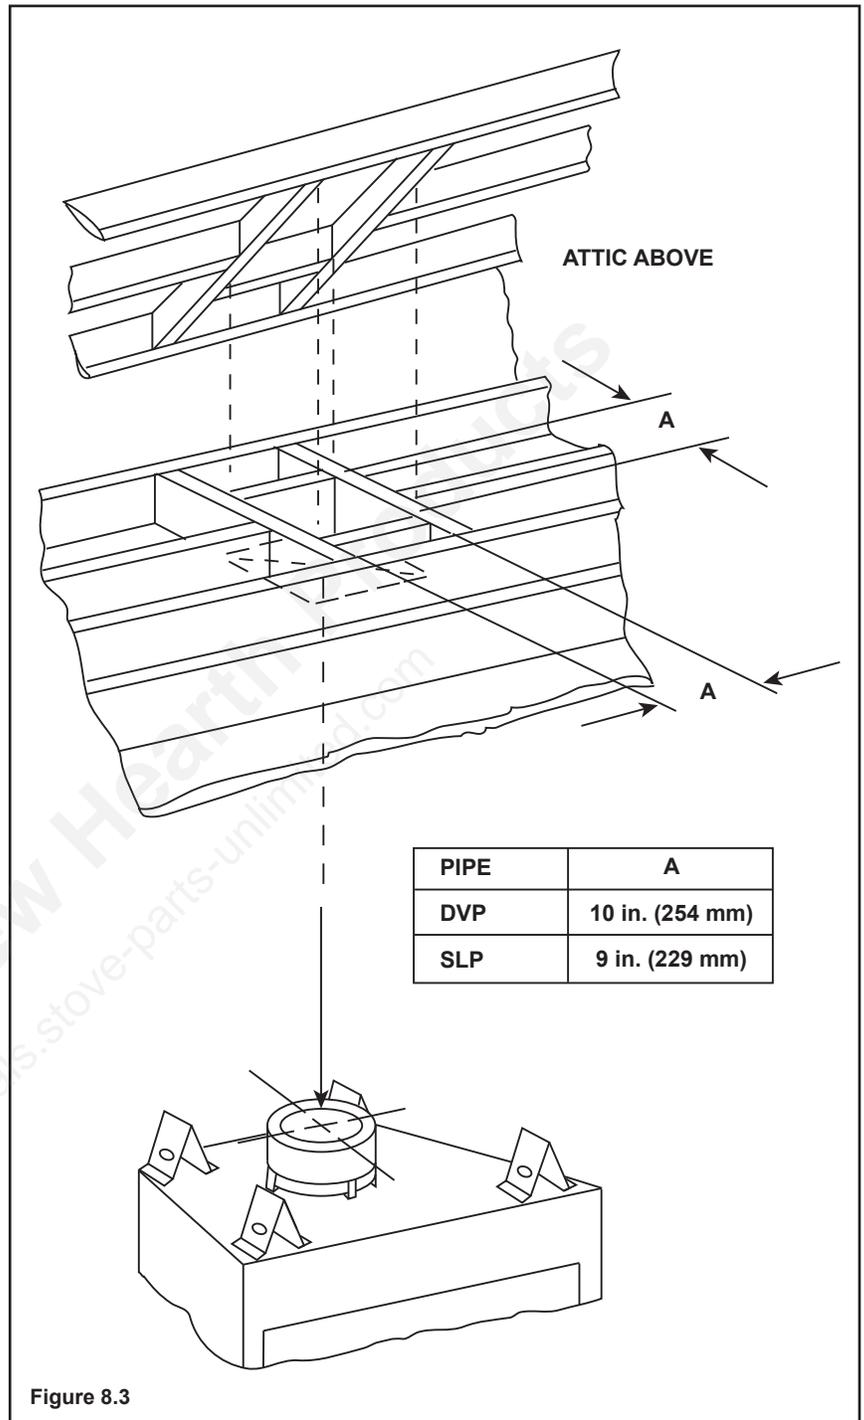

Figure 8.3
- **DVP pipe only** - Frame an opening 10 in. by 10 in. (254 mm by 254 mm) whenever the vent penetrates a ceiling/floor (see Figure 8.3).
- **SLP pipe only** - Frame opening 9 in. x 9 in. (229 mm x 229 mm) whenever the vent penetrates a ceiling/floor (see Figure 8.3).